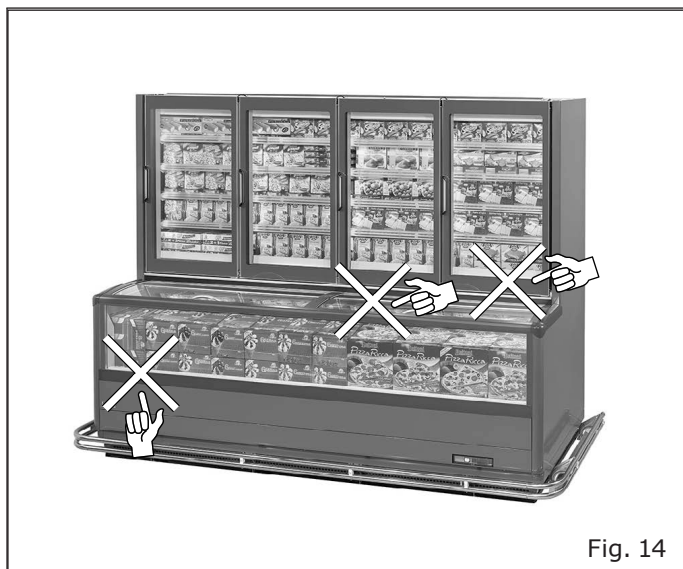

Fig. 14
- The goods do not obstruct the correct flow of refrigerated air ("Fig. 14").